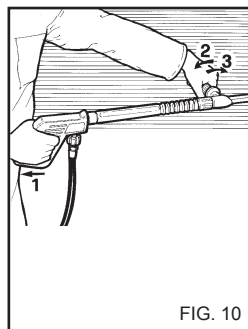

FIG. 10
**USE OF THE DOUBLE LANCE (fig. 10)**